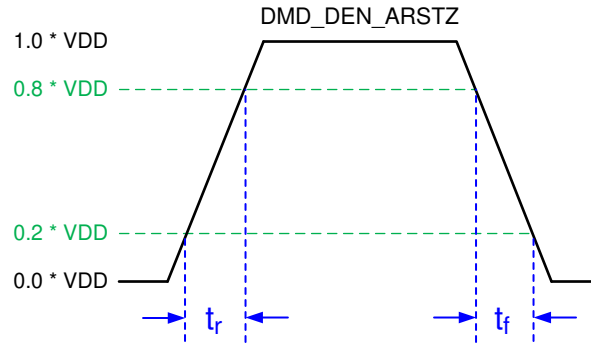

Figure 2. LPSDR Input Rise and Fall Slew Rate
(1) Specification is for DMD\_DEN\_ARSTZ pin. Refer to LPSDR input rise and fall slew rate in Figure 2.
(2) Specification is for SubLVDS receiver time only and does not take into account commanding and latency after commanding.